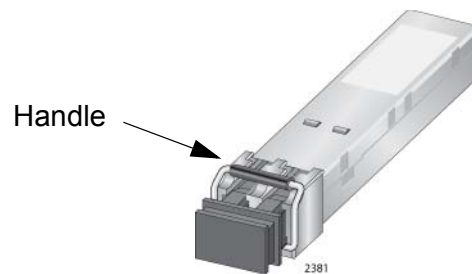

Figure 96. Handle on SFP+ Transceiver
2. Orient the SFP+ transceiver with the handle on top, as shown in Figure 96.